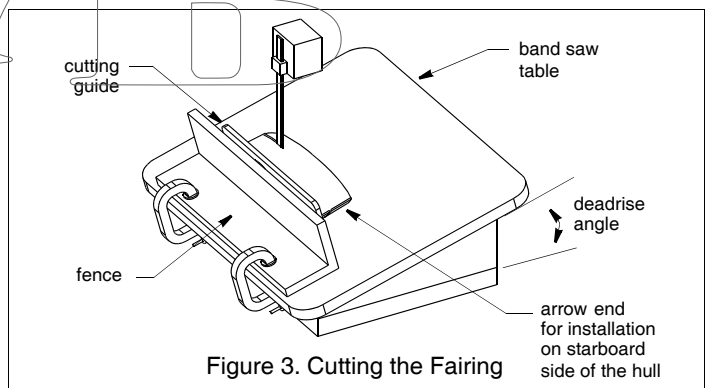

Figure 3. Cutting the Fairing
2. Tilt the band saw table to the measured angle and secure the cutting fence (see Figure 3).